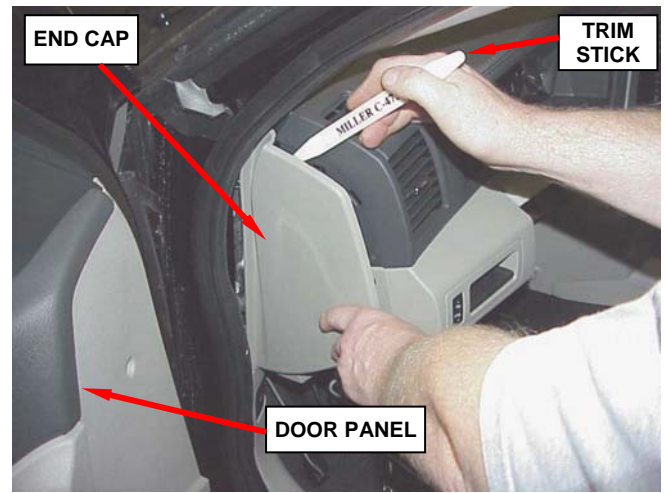

Figure 1 – Driver Side Shown
3. Remove the right and left instrument panel end caps (Figure 1).
- 43. Install the passenger side end cap (Figure 1).
- 48. Install the driver side instrument panel end cap (Figure 1).